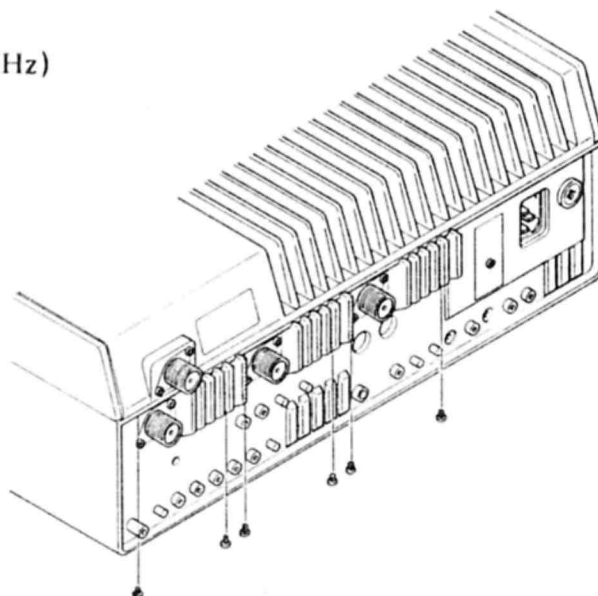

Figure 2. Band Module Mounting
- (2) Referring to Figure 2, position (each) Band Module so that the antenna jack is oriented as shown (nearest the HF antenna jack on the transceiver heatsink), and carefully slide each Module straight in so that the circuit board edge connector on the Module mates with the connector inside the transceiver.
- (3) Set the transceiver on its side, and install the two screws for each Module shown in Figure 2.